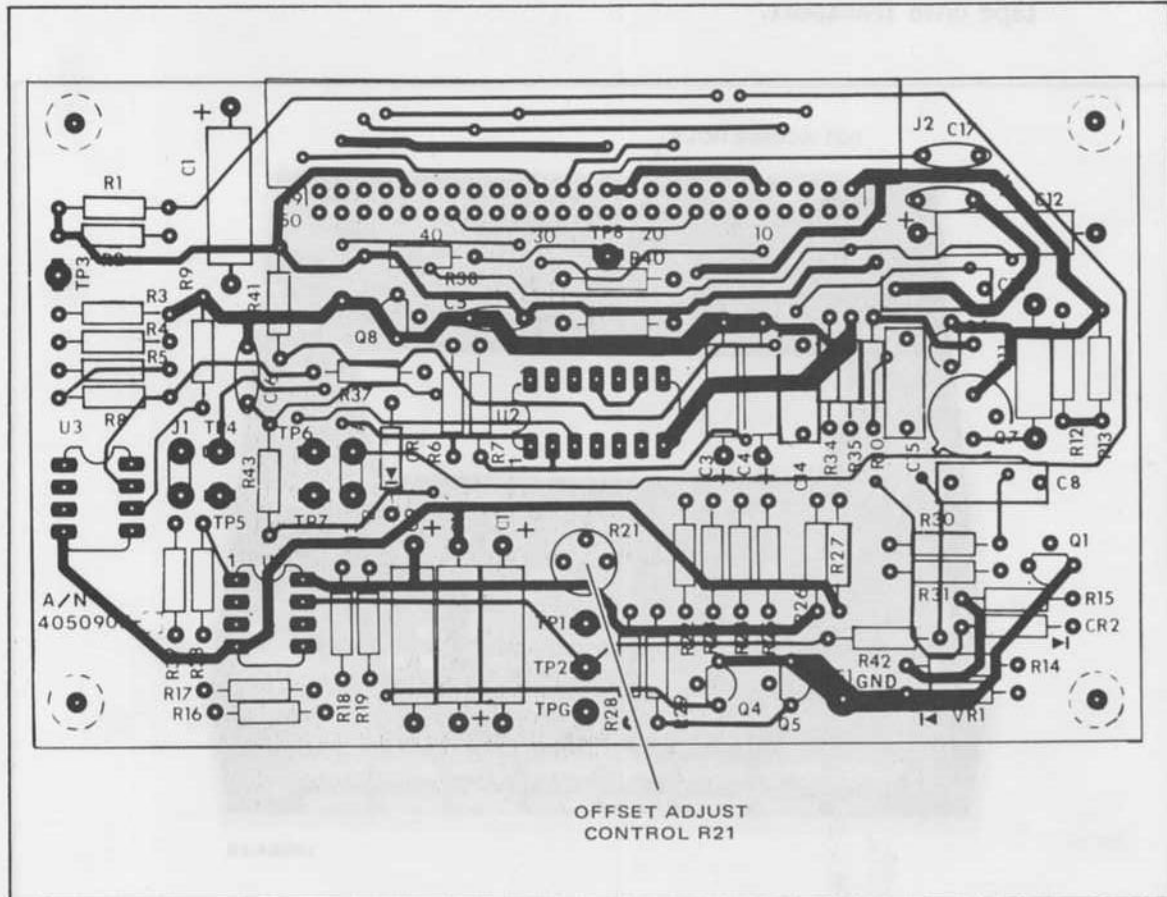

Figure 5-12. Tape Tension Offset Adjustment Control
STEP 2 Adjust offset control R21 (Figure 5-12) that capstan motor current is 200 mV more negative than that measured in step 1 when the transport is pulling tape (e.g., play mode). *with R21 fully CCW, best reading is -260mV (depending on tape pack distribution). This may be*